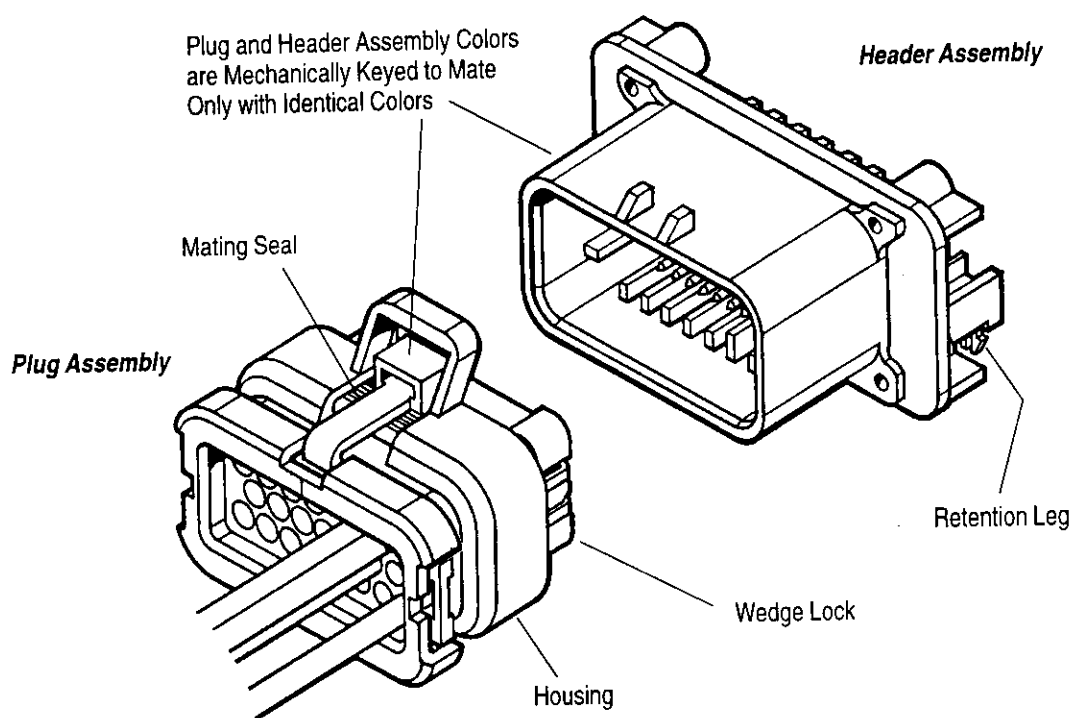

Figure 1
When corresponding with AMP representatives, use the terminology provided in this specification to facilitate your inquiry for information. Basic terms and features of the plug connector and header assemblies are provided in Figure 1.
- Added color keying callout to Figure 1